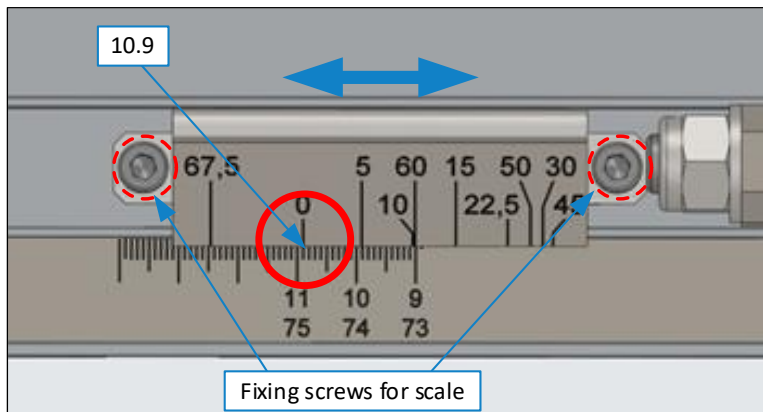

Figure 4: Adjusting the DSG-D (4)
9. The length measurement must correspond to position "0" ($\triangleq 90^\circ$) on the angle scale (\Rightarrow Figure 4).
10. If the length measurement does not correspond to the "0" position, leave the DSG-D fence in the clamped state, loosen the screws of the scale, and move it until the 0 of the upper scale corresponds exactly to the measured value (\Rightarrow Figure 4). Then re-tighten the screws.
Example: If a piece of material is cut with the setting 110 mm, but it only has 109 mm when measured, the scale display must be shifted so that the 0 corresponds to the value 10.9 ($\triangleq 109$ mm) on the lower scale (see \Rightarrow Figure 4).